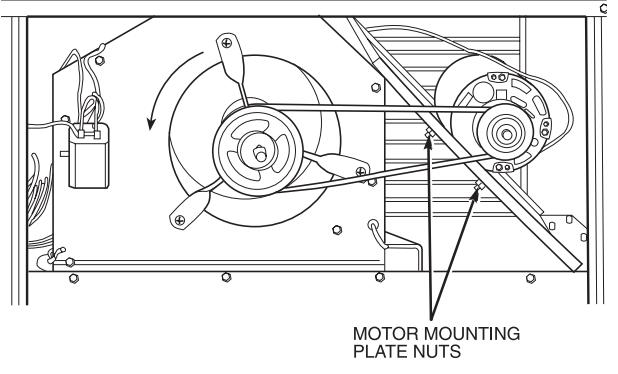

Fig. 41 — Belt Drive Motor Mounting
2. Loosen the belt by loosening the fan motor mounting nuts. (See Fig. 41.)